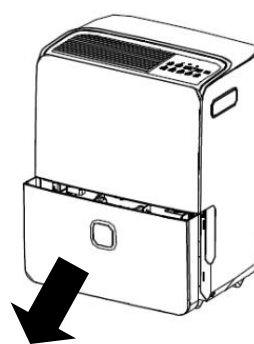
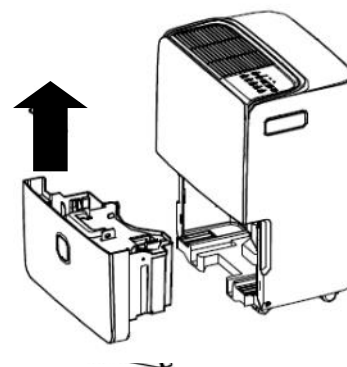

Fig. 3
Fig. 4
3. Grip the left and right handles of the drain bucket securely and carefully pull out the drain bucket. Do not put the drain bucket on the floor because the bottom of the bucket is not even which may cause the water to spill. See Fig.3 and Fig. 4.